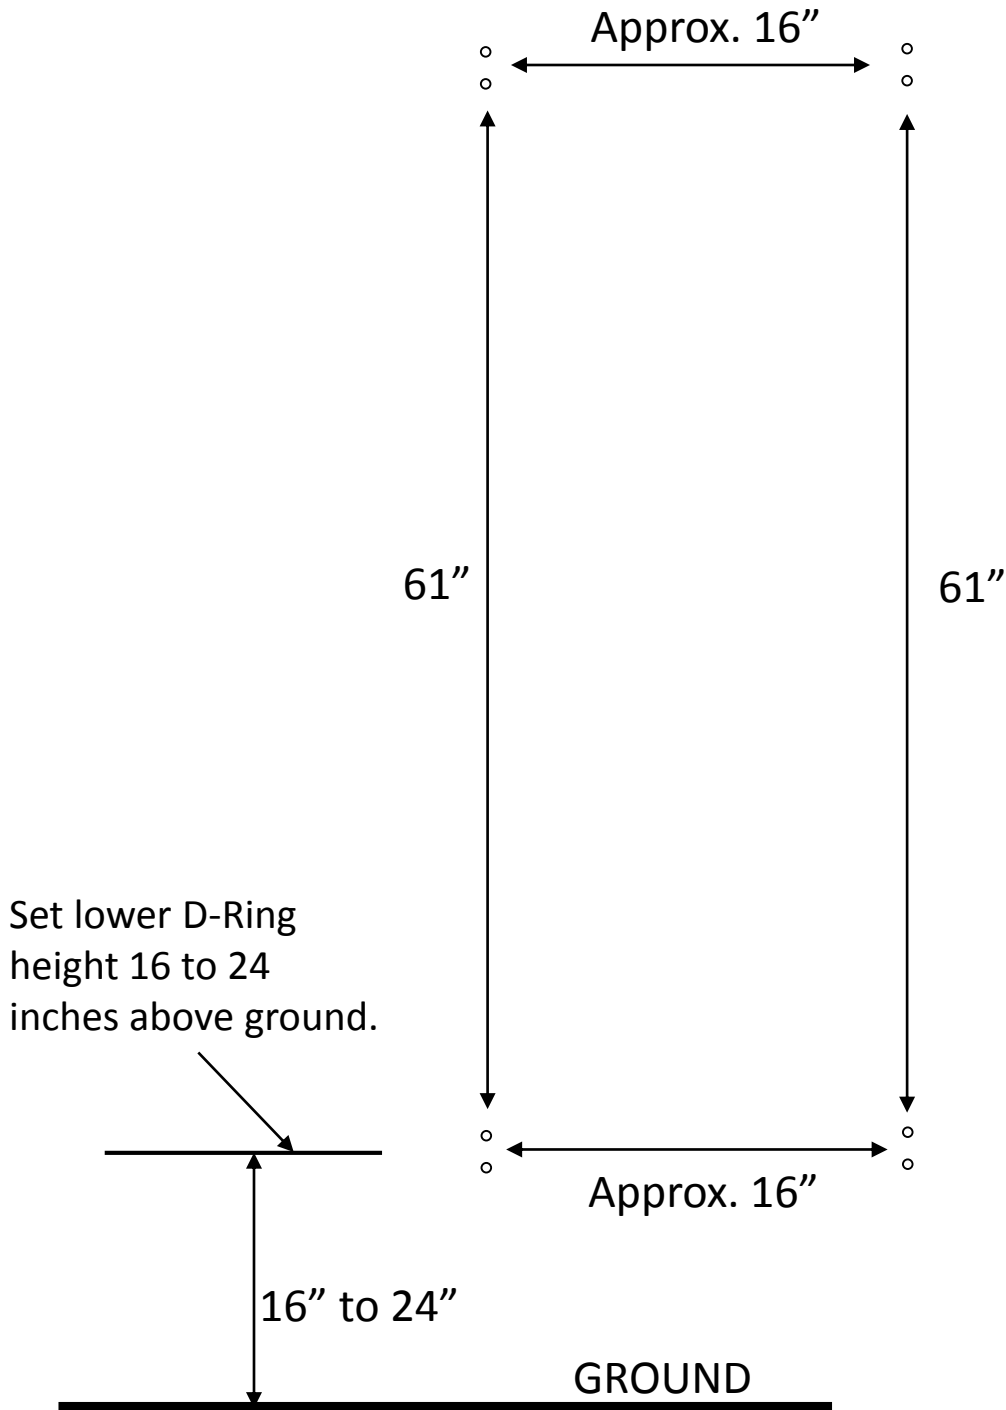

Figure 20
Step 2 - Carefully mark the center of both mounting hole locations over the wood structure behind the mounting latch with a marker (see Figure 19). After marking all four D-Ring locations the markings on the wall indicating drilling locations should appear as in Figure 20.